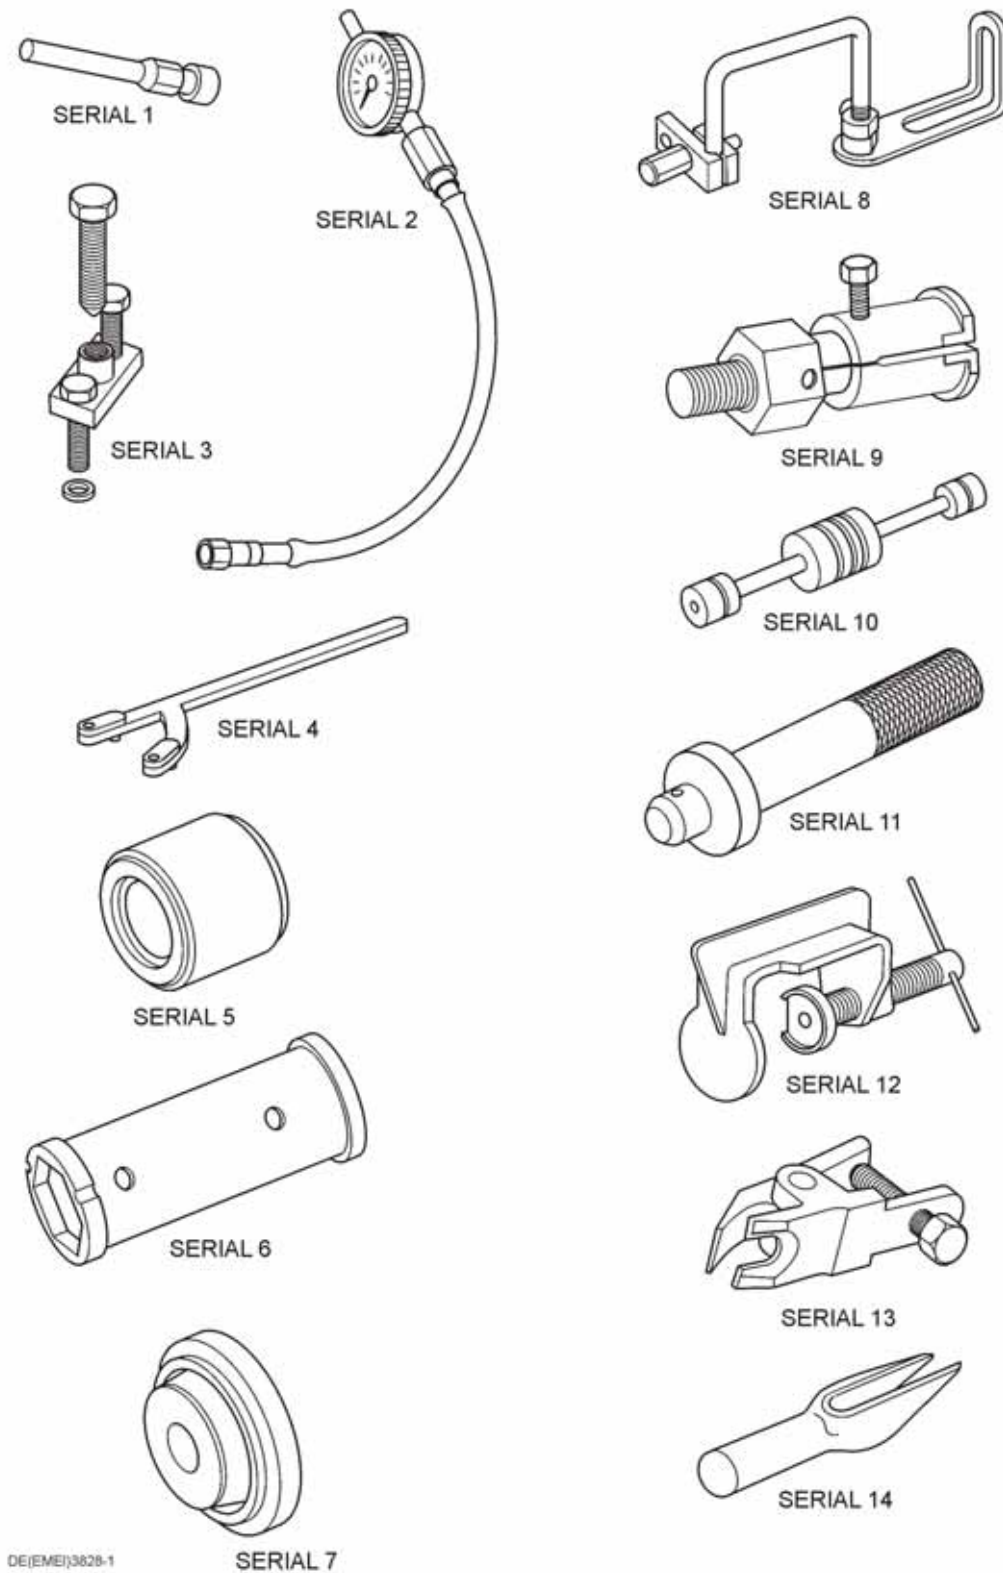

Figure 1 Special Tools
14. Many of the procedures described in this EMEI require the use of special tools, jigs or fixtures. The special tools required are listed in Table 3 and illustrated in Figure 1.